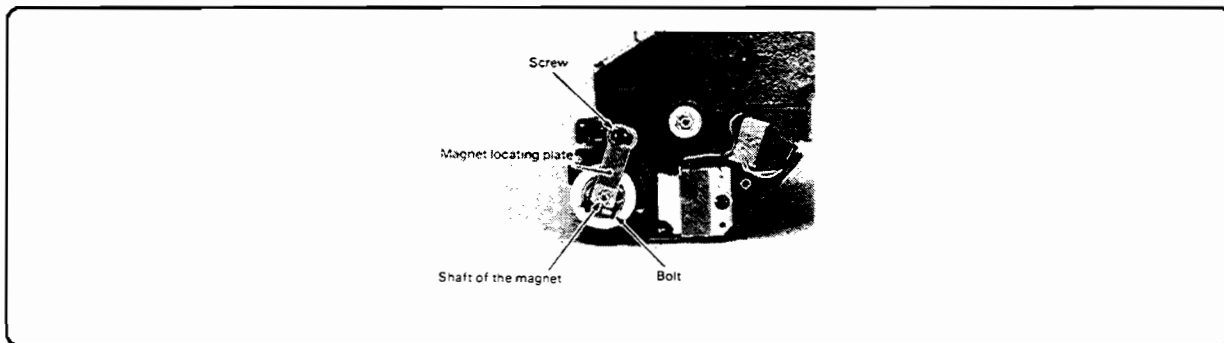

Figure 6-64. Developer Magnet Locating Plate
8. Loosen the nut and bolt squeezing the magnet locating plate onto the shaft of the magnet. Remove the screw mounting the plate; then remove the plate (Figure 6-64).
2. Fasten the magnet locating plate in the position that holds the magnet cylinder shaft and blade in alignment (refer to Figure 6-64 on page 6-62).